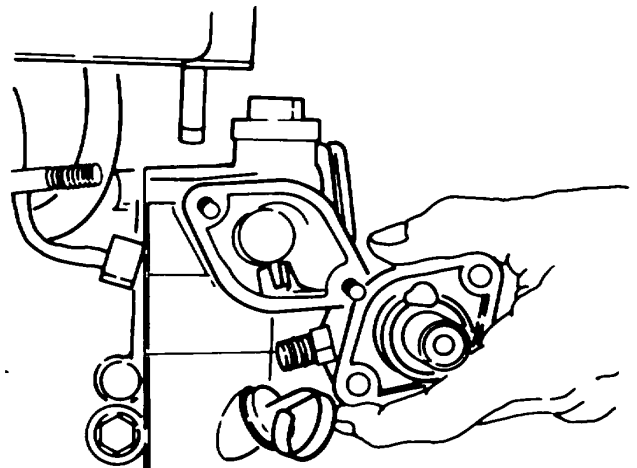

Figure A-55. Injection Pump
n. Injection Pump. Place the speed control lever in an approximately horizontal position. Set the injection pump rack to the midpoint of its travel. These steps will insure that the injector rack pin mates properly with the governor arm. Do not move the speed control lever before tightening down the injection pump. Install the same number and types of shims and gasket as were on the engine when disassembled. (See Fuel/Governing System for complete injection timing information.) (Figure A-55.)